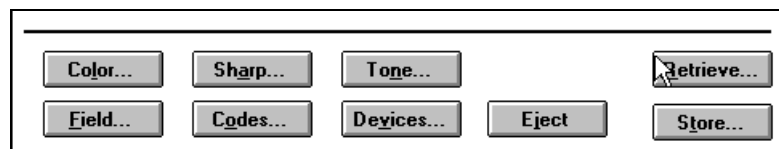

Figure 4-33. Advanced Settings Buttons on Scanner Control Panel
3. Choose the More button to display the Advanced Settings buttons (Figure 4-33).